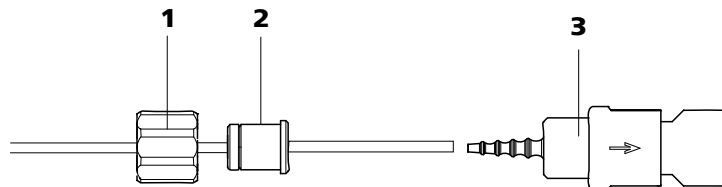

Figure 28 Install pump tubing connection with filter
- **Case A:** a 6.2744.180 pump tubing connection **with filter** (see figure 28, page 48) or